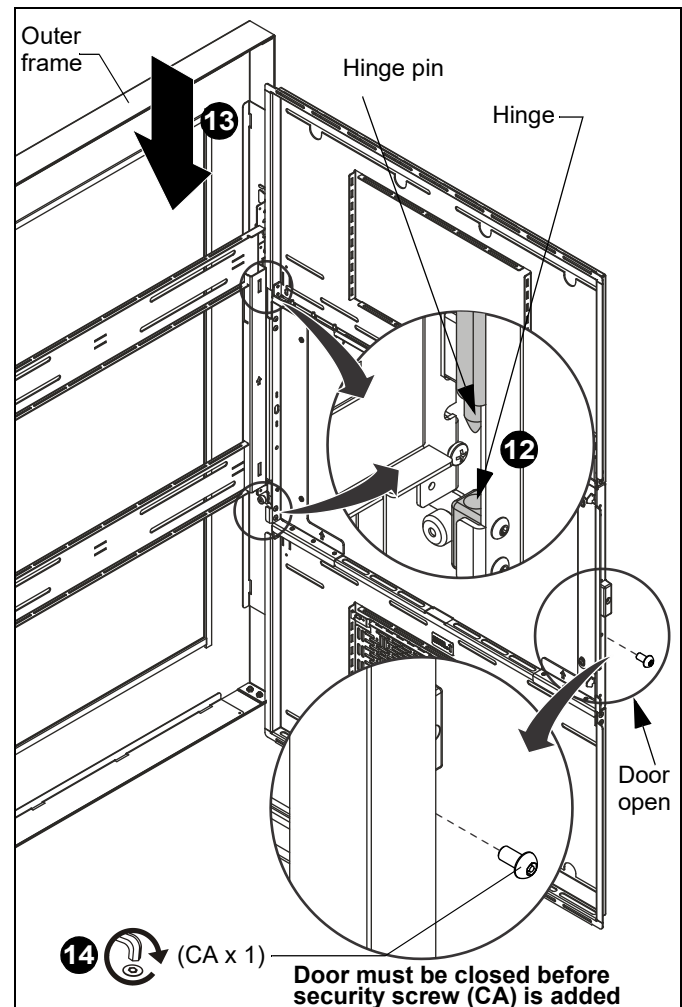

Figure 9
12. Keeping the outer frame at a 90° angle against the wall, slide the outer frame so that hinge pins are above hinges. (See Figure 9)
13. Lower outer frame to engage hinge pins into hinges. (See Figure 9)
14. Close outer frame door and add 10-24 x 3/8" button head security screw (CA) in hole below latch to lock door. (See Figure 9)